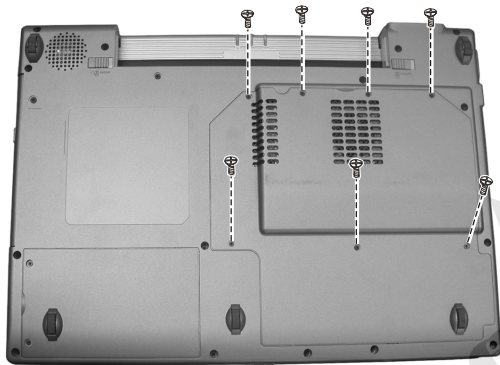

Figure 2-4 Remove the seven screws
2. Remove the seven screws fastening the CPU cover. (Figure 2-4)